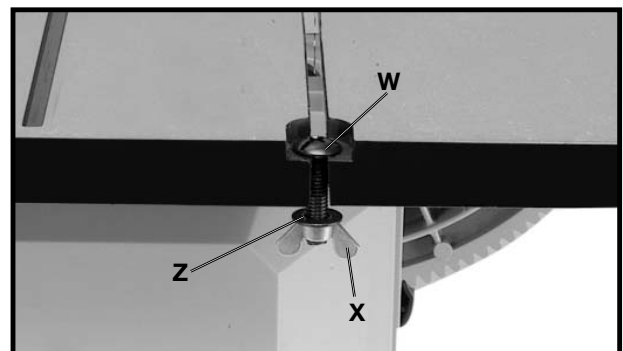

Fig. 12
10. Insert M6x1x30mm screw (W) Fig. 12, down through hole in table, as shown, and place an M6 flat washer (Z) onto the M6x1x30mm screw (W) and thread the M6x1 wing nut (X) onto screw (W) and tighten securely.